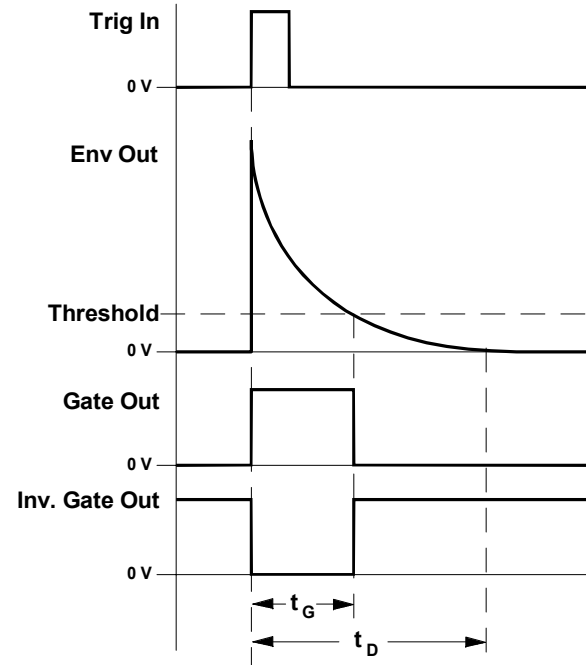

fig. 1: How the A-142 responds to a trigger
This is used for manual control of the **decay time** t_D of the envelope generated. After an extremely short attack phase, the envelope runs from maximum to zero in the time that has been set by this control (see fig. 1).
⑤ Threshold
Control ⑤ is used for setting the **threshold** which determines the **length of the gate signal** produced. It works like this: the gate signal t_G at output ④ starts when a trigger is sensed, and stops whenever the envelope voltage falls below the threshold level, which you set with control ⑤ (see fig 1).